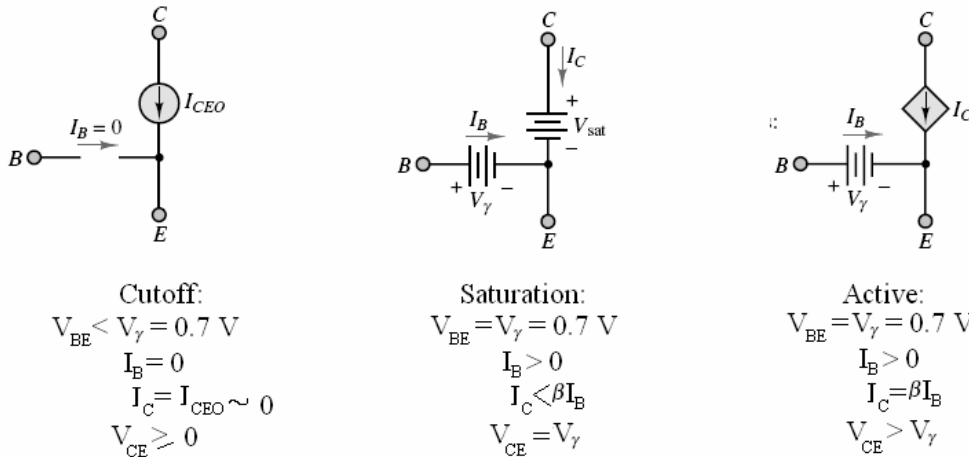

Figure 26. BJT large signal model. From now on, V_γ will refer to the turn-on voltage of a diode, approximately 0.7 V.
The I-V characteristics of the previous section indicate that the BJT acts like a current-controlled current source: a small amount of current injected into the base can cause a much larger current to flow into the collector. The large signal model of the BJT recognizes this operating mode of the BJT – active linear region – in addition to the cutoff and the saturation regions. The large signal model is shown in figure 26. Note that the large signal model is an idealization of the very popular Ebers-Moll model for BJT operation. The Ebers-Moll model is beyond the scope of this class and will not be pursued here.
2. Next we set the operating point (**DC Bias Point or Q Point from load line terminology**) of the transistor to be in the region of operation from step (1).
3. We carry out the analysis to make sure the transistor is operating in the required region of operation (we can use figure 26 as a guide to make sure the voltages and currents are in the correct range).